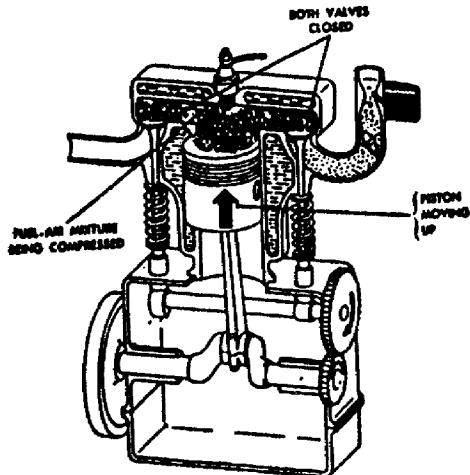

Figure 1-8. Compression Stroke.
b. Compression stroke. The piston reaches the bottom of the intake stroke and the intake valve closes. Both intake and exhaust valves are now closed, sealing the upper end of the cylinder. The rising piston compresses the air-fuel mixture. The mixture is compressed to one-sixth or one-seventh of its original volume. This is the same as one gallon of air compressing until a little more than a pint of air is left. Compressing the mixture makes it more combustible; the energy in the fuel is concentrated into a smaller space. The mixture of air and fuel is ignited near or at the top of the compression stroke (Figure 1-8).